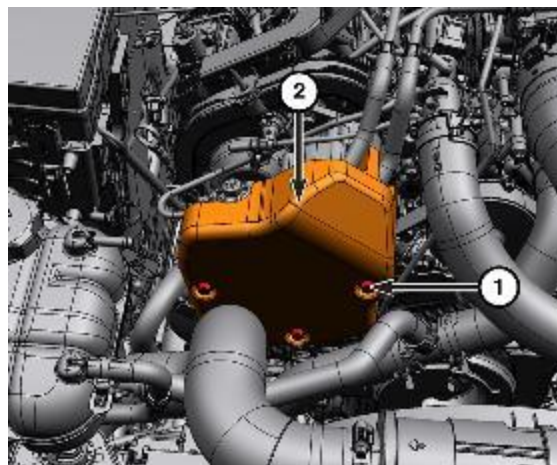

Figure 4 – Cover Screws
7. Remove the screws (1) that secure the cover (2) for the high-pressure fuel pump (Figure 4).